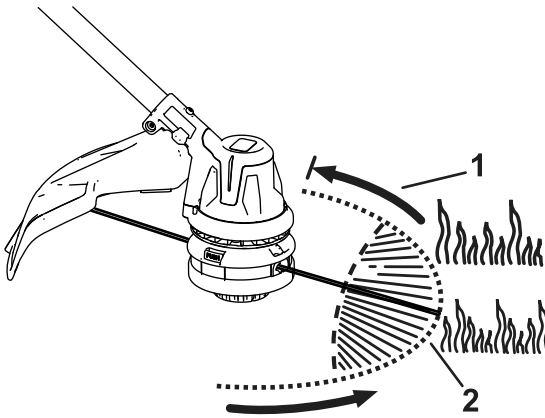

**Figure 12**
1. Press in on the sides of the buckle (A of Figure 12).
2. Allow the buckle to disconnect (B of Figure 12).